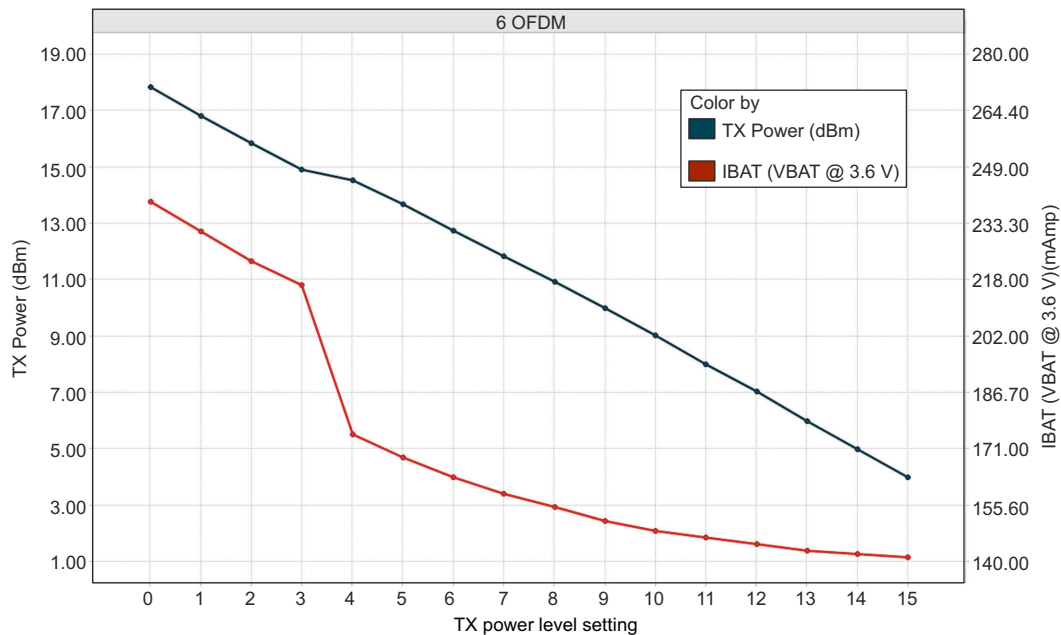
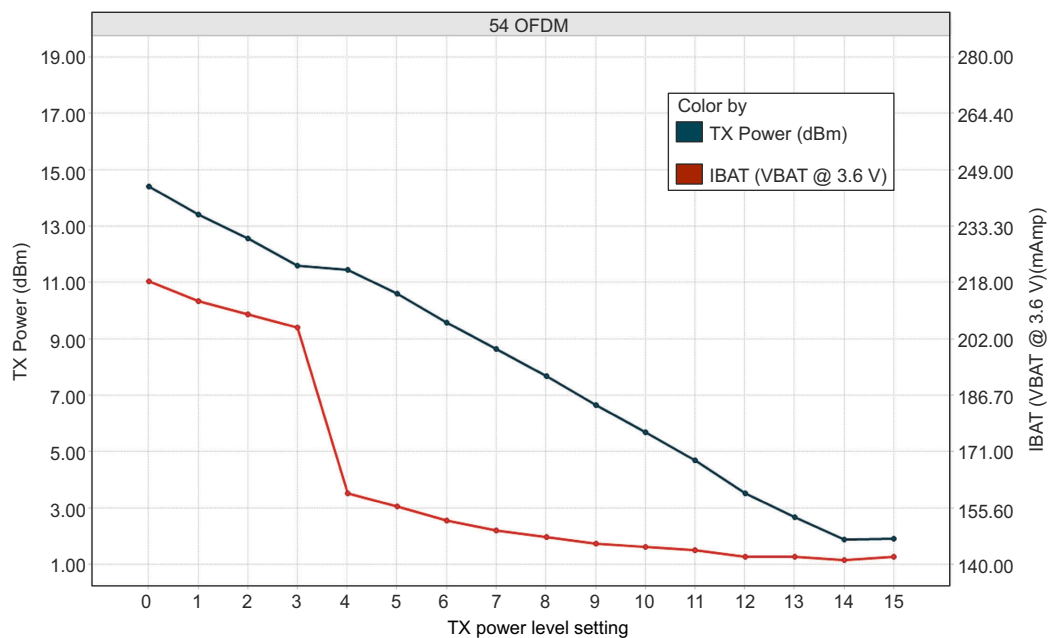

Figure 7-2. TX Power and IBAT vs TX Power Level Settings (6 OFDM)
図 7-3. TX Power and IBAT vs TX Power Level Settings (54 OFDM)
- (1) TX power level = 0 implies maximum power (see Figure 7-1, Figure 7-2, and Figure 7-3). TX power level = 4 implies output power backed off approximately 4 dB.
- (2) DTIM = 1
- (3) The complete calibration can take up to 17 mJ of energy from the battery over a time of 24 ms. In default mode, calibration is performed sparingly, and typically occurs when re-enabling the NWP and when the temperature has changed by more than 20°C. There are two additional calibration modes that may be used to reduced or completely eliminate the calibration event. For further details, see CC3120, CC3220 SimpleLink™ Wi-Fi® and IoT Network Processor Programmer's Guide.
- (4) The CC3120R system is a constant power-source system. The active current numbers scale based on the V_{BAT} voltage supplied.
- (5) For the 1.85-V mode, the hibernate current is higher by 50 μA across all operating modes because of leakage into the PA and analog power inputs.
- (6) The RX current is measured with a 1-Mbps throughput rate.